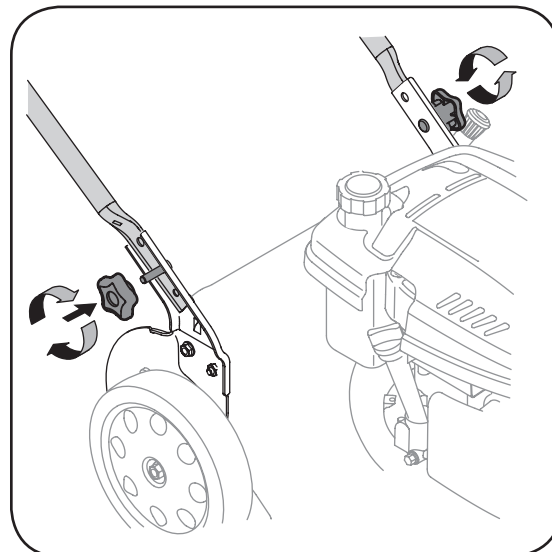

Figure 3-2: Secure handle to handle mounting brackets.
2. Replace and tighten hand knobs removed earlier to secure lower handle to handle brackets, Figure 3-2.